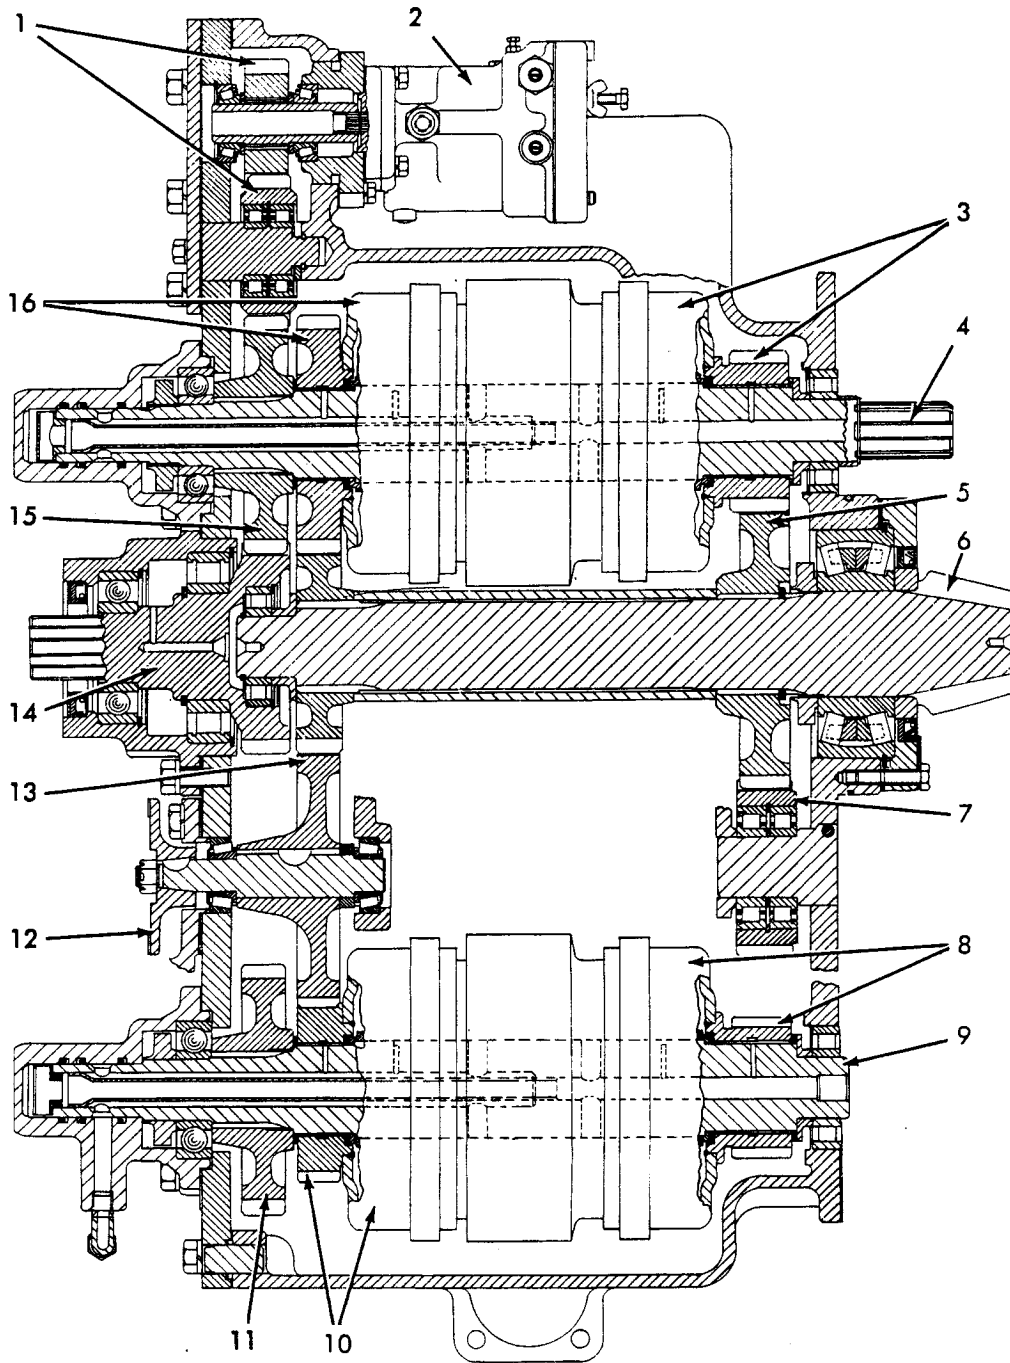

Fig. 21 -- Transmission Assembly
Transmission, Fig. 21, is constant mesh, with front and rear gear trains. Two power shift hydraulic clutch assemblies provide smooth high speed shifts. Each clutch assembly is actually two clutches on one shaft; top shaft, Fig. 21, carries forward clutches and gears, bottom shaft carries reverse clutches and gears. Clutches are hydraulically applied and spring released.
Engine power is transmitted through torque converter to transmission input shaft, Fig. 21; input shaft gear is in mesh with front (drive) gear on each clutch shaft. When tractor is operating in 1st forward, rear clutch on top shaft is engaged. Respective clutch drum and gear, Fig. 21, drives low speed gear on bevel pinion shaft. When tractor is operating in 2nd forward, front clutch on top shaft is engaged. Respective clutch drum and gear, Fig. 21, drives high speed gear on bevel pinion shaft. When tractor is operating in 1st reverse, rear clutch on bottom shaft is engaged. Respective clutch drum and gear, Fig. 21, drives idler gear (7); idler drives low speed gear on bevel pinion shaft. When tractor is operating in 2nd reverse, front clutch on bottom shaft is engaged. Respective clutch drum and gear, Fig. 21, drives idler gear (13); idler drives high speed gear on bevel pinion shaft.